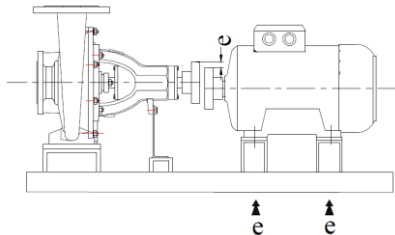
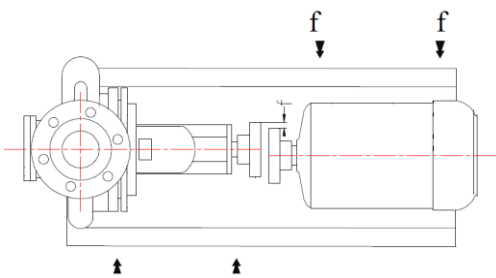

Figure 5: Parallel Axis Misalignment in Vertical Plane and Its Correction
Figure 7: Parallel Axis Misalignment in Horizontal Plane and Its Correction
**1.Paralel Axis Misalignment (Figure 5-Figure 7)**